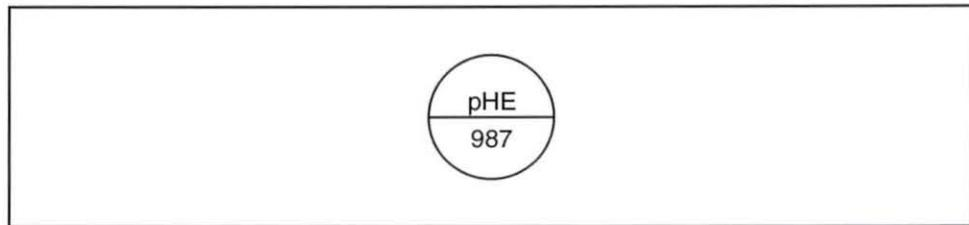

Figure 70. Instrument Tag
9. Determine the measured variable and function of the device using the instrument tag in figure 70.